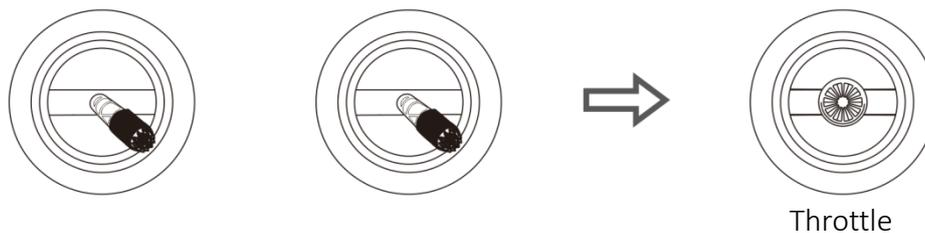

Figure 2-5 Unlock and take off
**Step 5:** The drone remains at its current altitude and hovers after the throttle lever is centered, as shown in Figure 2-5.